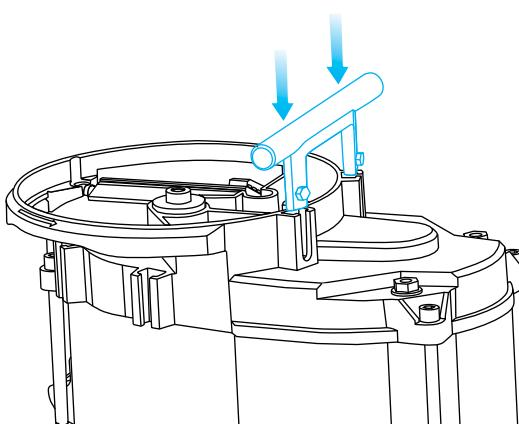

Fig. 3-4
- 7. Install the Top Tool Rest.** To install your Top Tool Rest, first remove it from the packaging and locate the 2 provided thumbscrews to mount the Tool Rest. Simply slide the Top Tool Rest into the T-Slots on the top of the unit. **See fig. 3-4.** Thread the provided fasteners into the tapped holes in the Tool Rest. Ensure the Tool Rest is level by placing a level on top of the Tool Rest surface. Once you have located the height and level of the Tool Rest you wish, tighten the 2 thumbscrews to secure the Tool Rest. Do not over-tighten these 2 thumbscrews, as you can potentially stress and/or damage the T-Slots in the top casting.